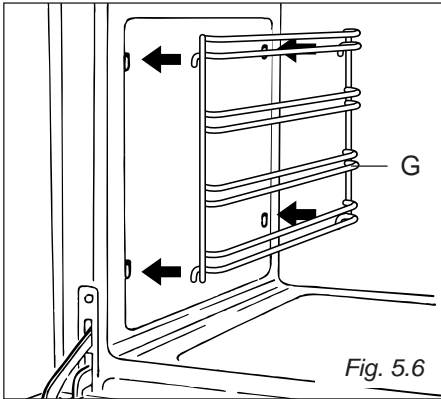

Fig. 5.6
- Hang up the wire racks “G” on the oven walls (fig. 5.6).